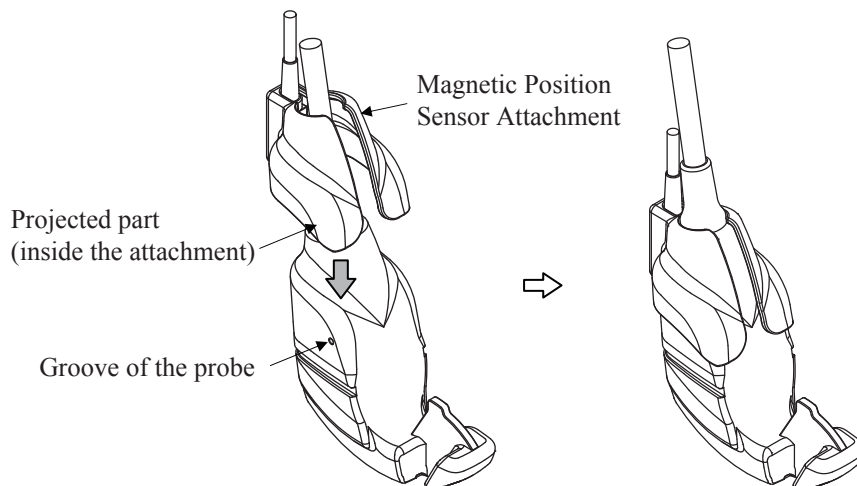

Figure 17 How to attach Magnetic Position Sensor Attachment
- (2) Attach the magnetic position sensor attachment to the probe as shown in Figure 17.